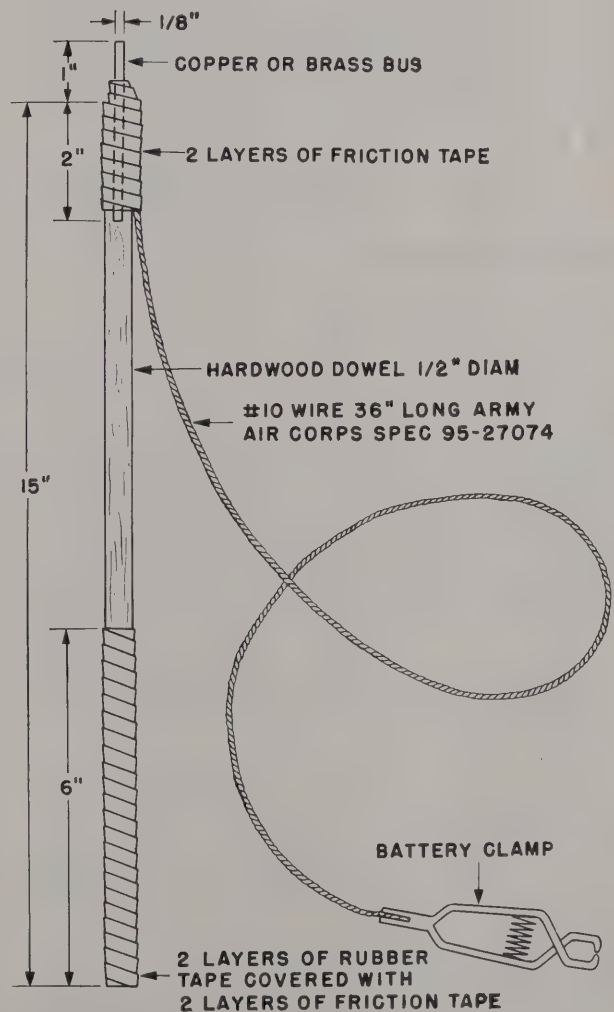

Figure 99. Shorting stick.
- (1) *General.* The shorting stick (fig. 99), described in (2) below, is used to discharge capacitors before performing any preventive maintenance or trouble shooting. Normally, when the power in the equipment is turned off, capacitors will discharge to ground through bleeder resistors or voltage dividers. Should a failure occur in a discharging network and the capacitors remain charged, severe burns might result upon contact. The use of the shorting stick prevents such accidents.
- (2) *Fabrication of shorting stick.* Obtain a hardwood dowel, one-half inch in diameter and 15 inches long. Drill a $\frac{1}{8}$ -inch hole in the end of the dowel, extending 2 inches from the end (fig. 99). Press fit a piece of copper or brass bus wire into the hole, leaving approximately 1 inch of bus wire extending beyond the limits of the dowel. Solder one end of a 36-inch length of flexible, stranded No. 10 wire (Air Corps spec. 95-27074, or equal) to the bus wire, as close to the dowel as possible. Attach a battery clamp to the other end of the flexible wire. Apply several layers of friction tape over the soldered connection of the flexible wire and the bus wire, leaving approximately one-half inch of the bus wire extended untaped. Continue the tape from the soldered connection down over the dowel for a distance of 2 inches from the soldered joint. Apply